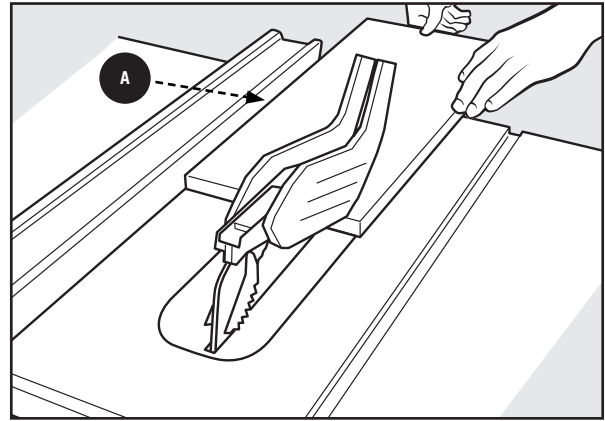

Figure 50
9. Hold the workpiece flat on the table and against the fence **A**. The workpiece **MUST** have a straight edge against the fence and **MUST NOT** be warped, twisted or bowed. See proper hand position in Figure 50.